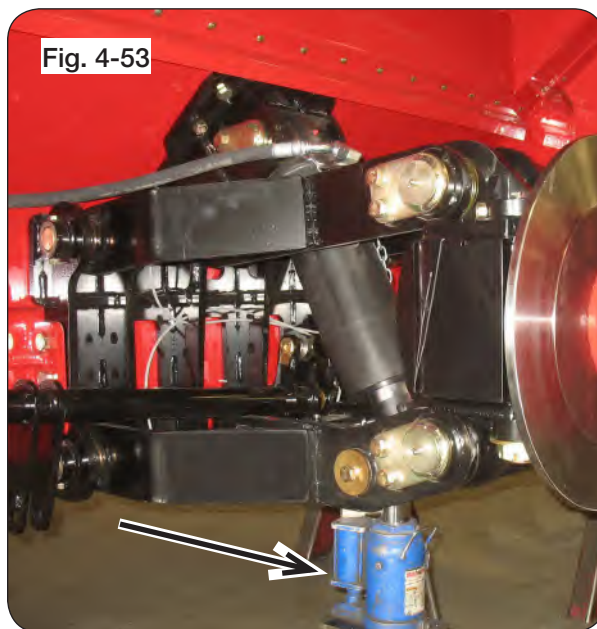

Fig. 4-53
1. Remove the weight from the tire by using a safe lifting device rated for a minimum of 9,000 lbs., and support the lower para-link arm of the tandem. (Fig. 4-53)